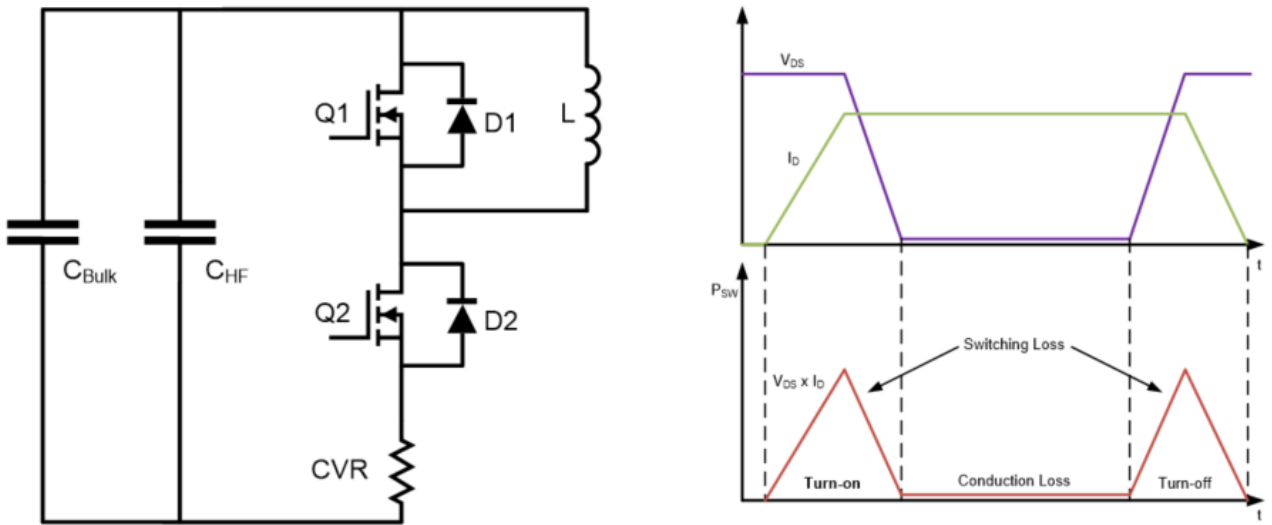
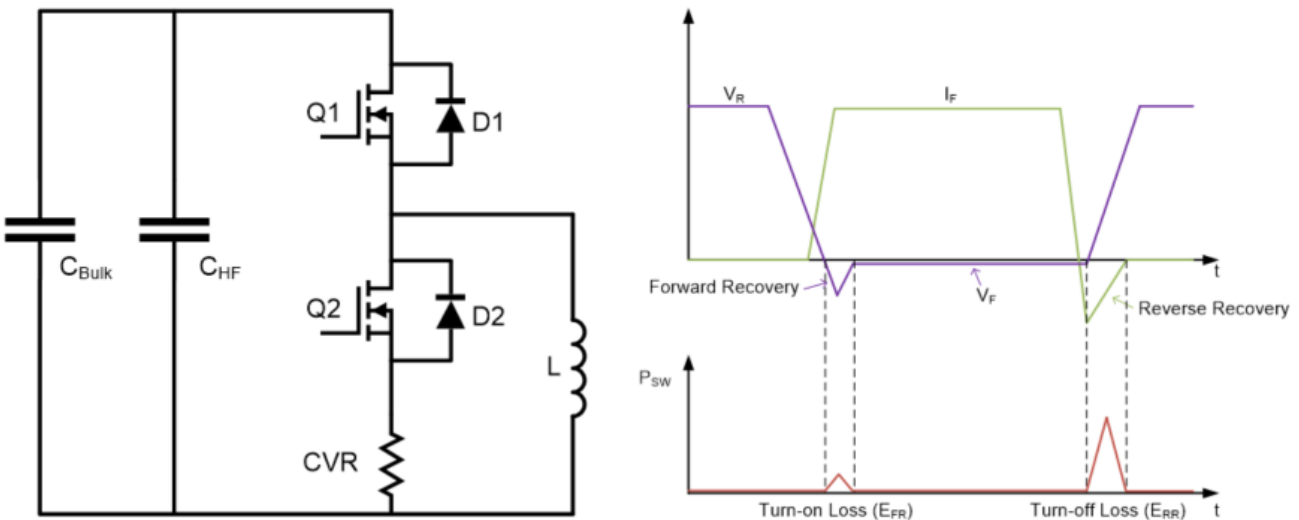

Figure 2 CIL Test Fixture Used to Measure the Switching Loss of MOSFET Q2
Figure 3 CIL Test Fixture Used to Measure the Switching Loss of Body Diode D2
There are two types of switching events: actively switched (MOSFET) and forced commutated (body diode). The test fixtures to measure both events are given below in Figure 2 and Figure 3, respectively. Q1 and Q2 represent the respective switch positions of the Wolfspeed XM3 half-bridge power module. Likewise, D1 and D2 represent the intrinsic body diodes of each switch position since there are no external Schottky diodes. For both tests, film capacitors (C_{Bulk}) are used for bulk energy storage to provide the needed energy transfer to the inductor (L) for the switching event, while high-frequency ceramic capacitors (C_{HF}) are used to provide a low-inductance switching loop. For MOSFET switching measurements in Figure 2, the inductor is connected across the upper switch position of the module from the midpoint to the positive bus rail while Q1 is held off and Q2 is pulsed; for body diode switching measurements in Figure 3, the inductor is connected across the lower switch position of the module to the negative bus rail while Q1 is pulsed and Q2 is held off.